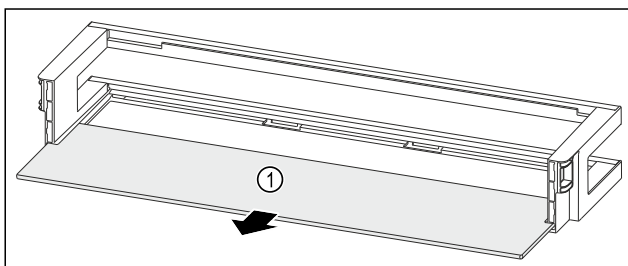

Fig. 235 Door rack with shelf
- ▶ Remove the shelf Fig. 235 (1).